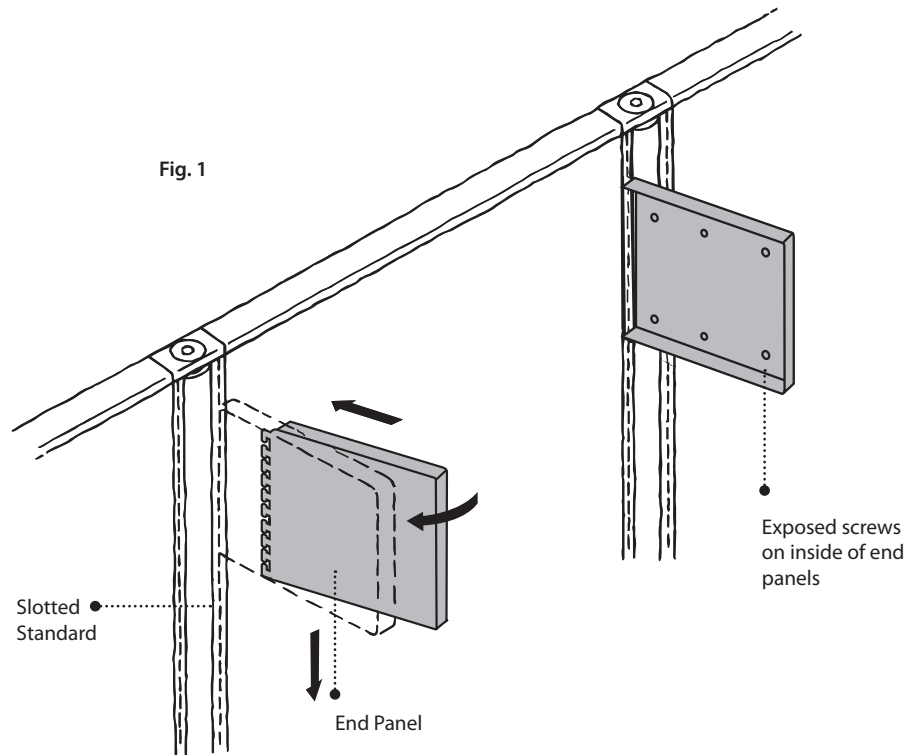

Fig. 3
Back front screw out approximately .060". Place shelf and reinforcing bar over screw and tighten securely. (Fig. 3)
4. Push fixture back, depress front end of brackets to clear front shelf lip, and pull fixture forward to fully engage brackets. In most situations, it is easiest to engage the brackets one end at a time. After installing on shelf, center the light fixture end-to-end. (Fig. 3)